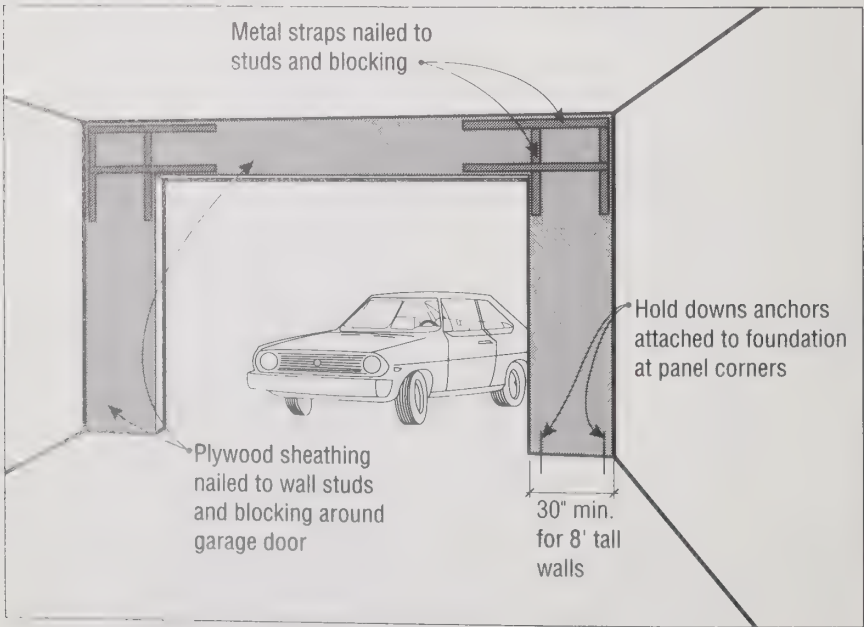

Figure 7: Bracing garage openings with plywood panels on each side.
F. House Over Garage –Second stories built over garages are vulnerable to damage and collapse. Many garages have large door openings and therefore do not have the strength to brace the floor above against shaking in an earthquake. When there is 30" or more of wall space on both sides of the garage door opening, it may be possible to strengthen this configuration by attaching plywood panels to the wood stud walls on both sides of the opening (see Figure 7). This applies to an 8' ceiling, but the required width will vary according to the height of the wall and other factors. In order for the panels to be effective, their height must be less than 3.5 times their width. The new panels should be supported by blocking on all sides and should follow the requirements of the local building code.